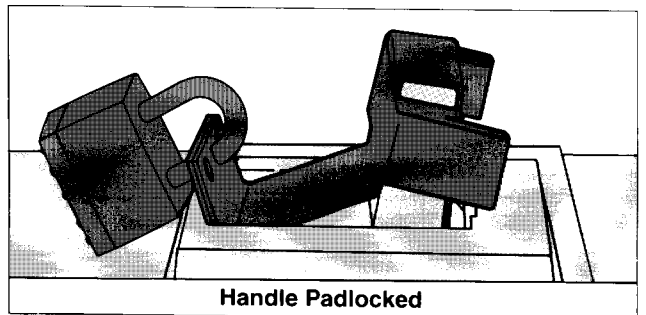

Figure 4
- B. Rotate the padlocking component until it is positioned over the handle blocking device, as shown in Figure 4. Install up to three padlocks, as required.